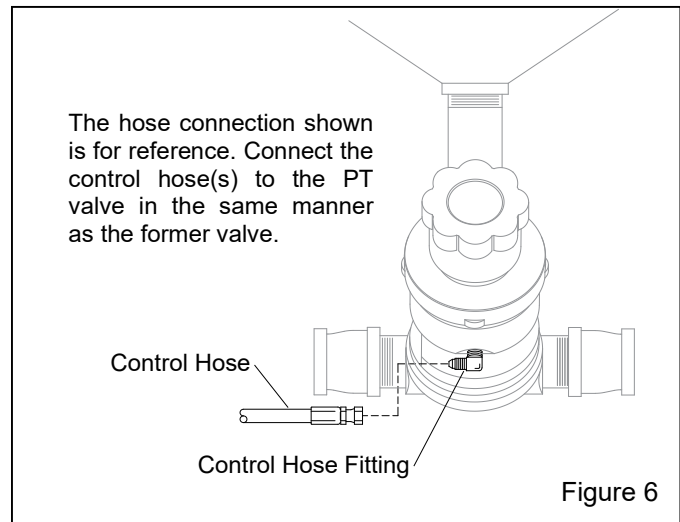

Figure 6
2.6 Connect Control Hose(s) – Figure 6
2.6.1 Attach fittings and connect the control hose(s) to the PT valve, as shown in Figure 6. Note that the illustration in Figure 6 is typical and shown for reference;